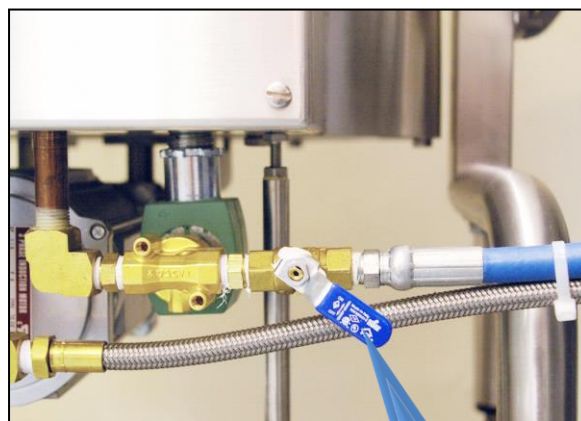

Figure 89
- Use the **Flush Open** button on the **Cooking Control HMI** screen to **Water Flush** the heating element. Additionally, adjust the water flow by opening the water valve (blue handle), Fig. 89. As cold water flows into the cooker, the water absorbs the heat and carries it away. Adjust the water valve for incoming water pressure. If water pressure is low, open the valve more. Experience will teach at what point in time and at what flow rate will achieve the desired effect. When valve handle is in line with hose, water is fully on Figure 87 shows the water partially turned off. You can regulate the water flow rate by partially opening the valve.